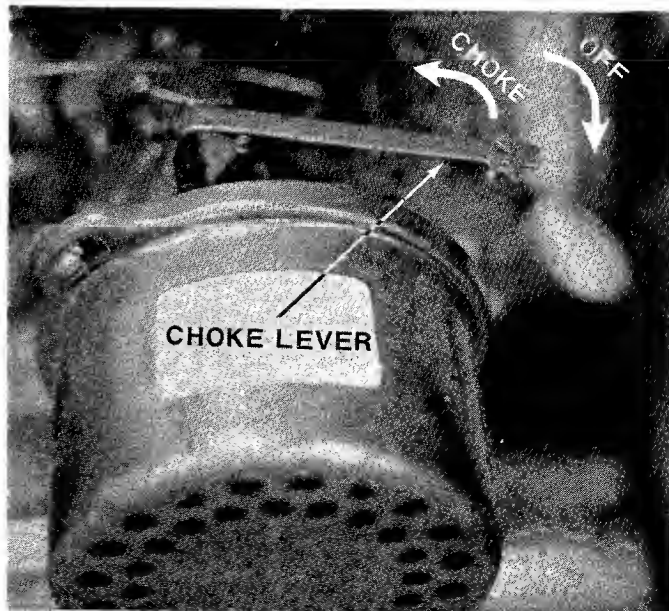

FIGURE 19
2. Move choke lever to CHOKE position. See figure 19.